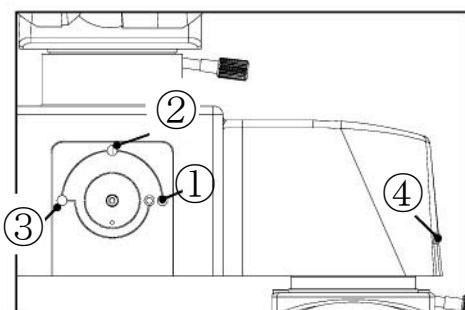

Fig. 9
When using the comparison knob, align the indicator point on the knob to the green dot ① (Fig. 9). The specimen image from the left microscope can be observed.
Adjust the comparison knob (shown in Fig. 9) and observe the images to check if the left and right magnifications match.